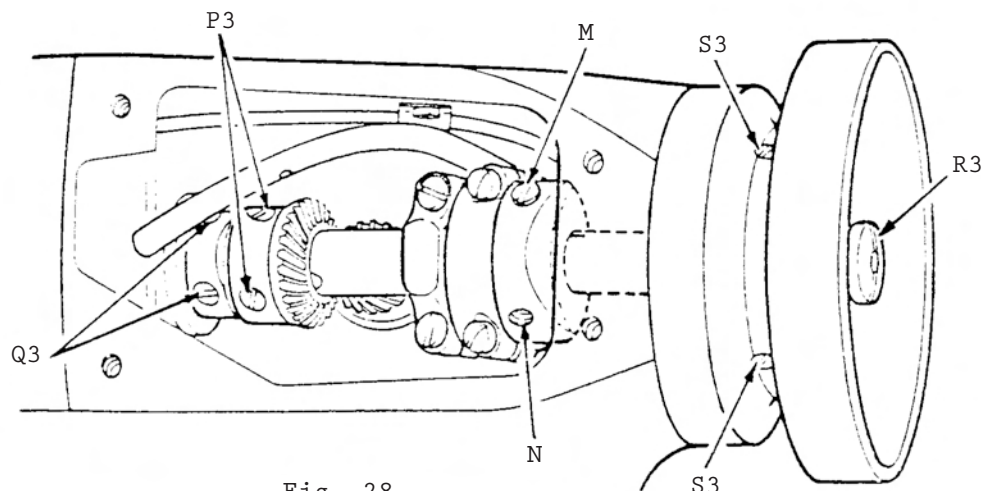

Fig. 28
REMOVAL (See Figs. 28 to 30)
6. Remove the feed timing screw M, Fig. 28 and loosen the set screw N, Fig. 28 in the feed and feed lifting eccentric.
8. Remove arm shaft screw R3, Fig. 28 from machine pulley end of arm shaft.
9. Loosen the two set screws S3, Fig. 28 and remove the machine pulley.